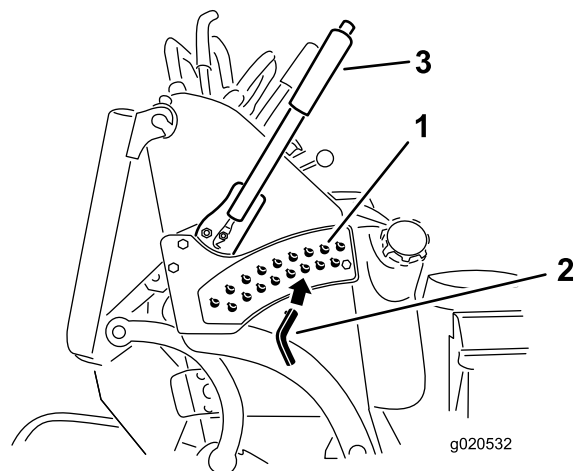

Figure 26
3. Select a hole in the height-of-cut bracket corresponding to the height-of-cut desired and, insert the pin (Figure 26).
4. Push the button on top and lower the height-of-cut lever to the pin (Figure 26).